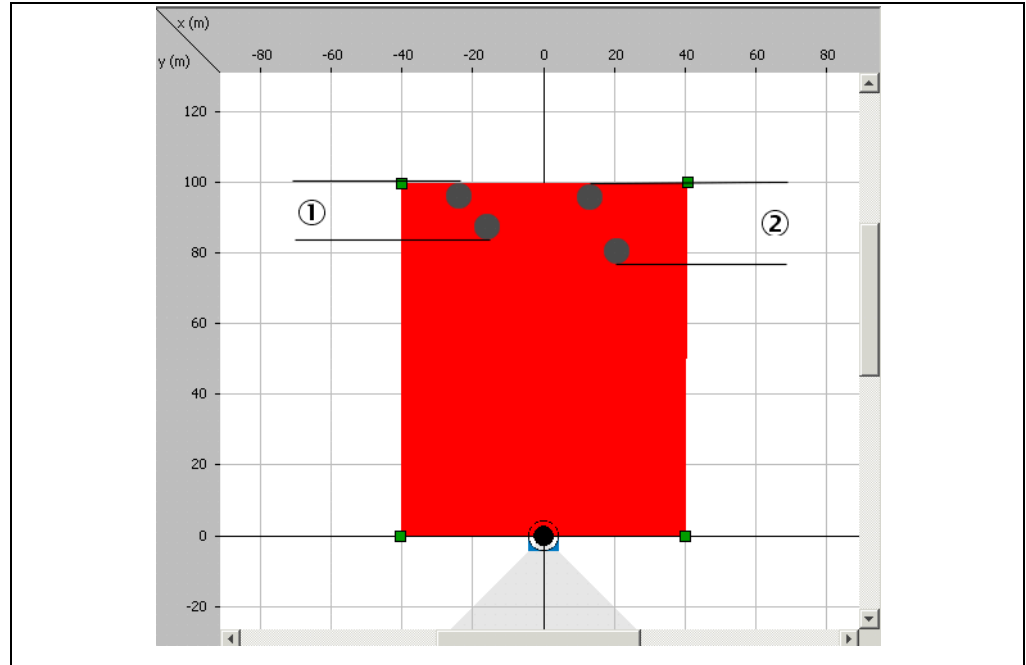

Fig. 29: Distance-dependent evaluation of two objects
In Fig. 29 the objects in example (1) are so close together (distance \leq value in the OBJECT SEPARATION field) that they are considered as one object. As a result the objects are not blanked and the evaluation field is considered infringed.